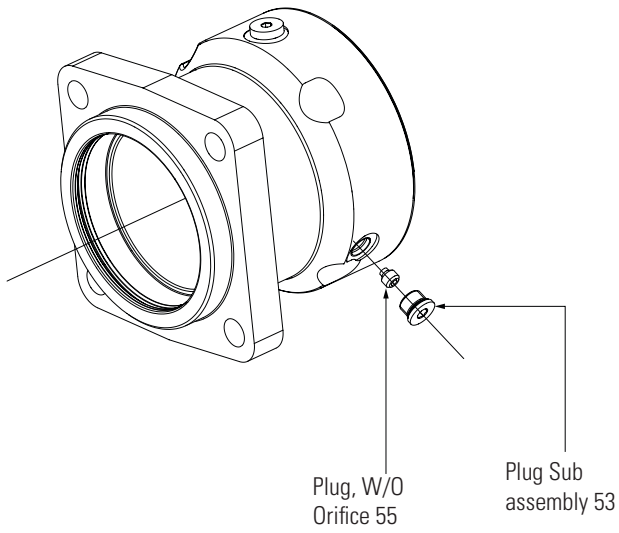

Figure 12A
- 9.2.5 Install the Plug W/O Orifice Plug as shown in Fig 12a for Close Loop Configuration
- 9.4.5 Install the Plug W/O Orifice Plug as shown in Fig 12a for Close Loop Configuration then Install a Plug